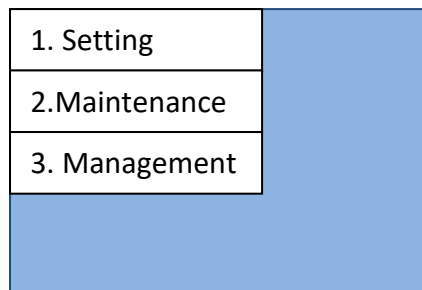
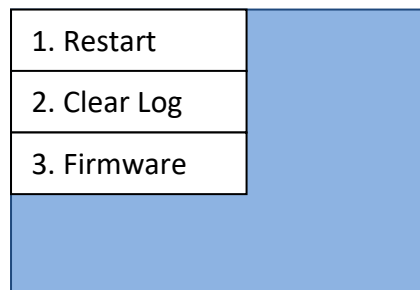
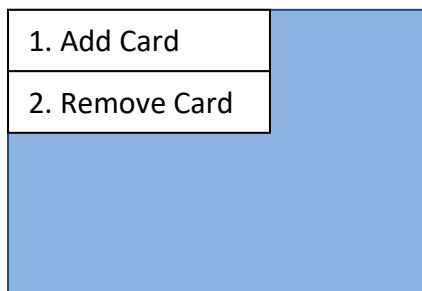
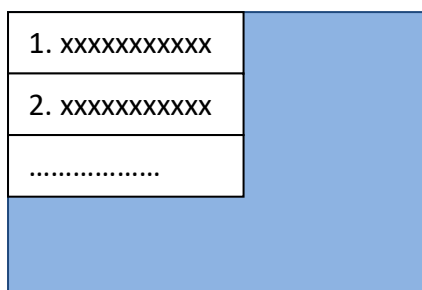

Figure 22 - Main configuration screen
Figure 27 - Maintenance screen
Figure 30 - RFID card control screen
Figure 33 - Card removal screen
- 4) If the password is entered correctly, the page shown in Figure 22 opens, which contains all the device configurations. The menu items can be selected using the Next and Back keys.
- 1) From the screen shown in Figure 22, select point '1. Settings' and press the Confirm/Enter key. Wait for the page shown in
- 1) From the screen shown in Figure 22, select item '2. Maintenance' and press Confirm/Enter. Wait for the screen shown in Figure 27 to appear.
- 3) Select 'Clear log' from the screen shown in Figure 27 to clear the list of events on the device. Confirm in the screen shown below.
- 4) Select '3. Firmware' from the screen shown in Figure 27 to view the software version of the device.
- 1) From the screen shown in Figure 22, select item '3. Management' and press Confirm/Enter. Wait for the screen shown in Figure 30 to appear.
- 3) To remove a charging card, select '2. Remove card' from the screen shown in Figure 30 and wait for the screen shown in Figure 33 to appear.